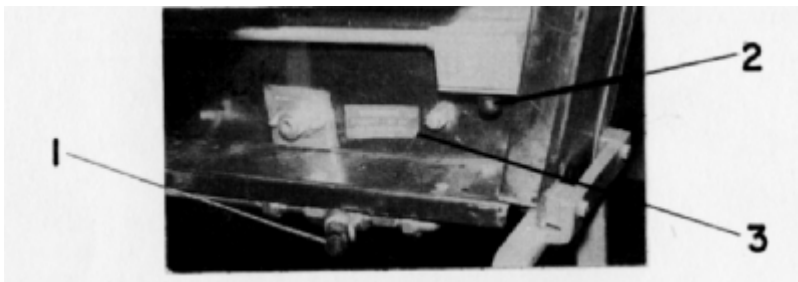

FIG. 28
NOTE:- When necessary, coupler manual alignment may be obtained by exhausting air pressure from Coupler Centering Device (3), Fig. 22-23. This is accomplished by push in handle on Manual Shutoff Valve (1) Fig. 28, to exhaust air from cylinders. After the cars are coupled, pull out handle on Manual Shutoff Valve.
At 'A' end the push button is located opposite cab side, inside of pilot at side sill level (84) Fig. 22, GE (76) Fig. 23, and at 'B' end of car the push button is located on end sheet, cab side, just above the loop step (84), Fig. 22 and (2) Fig 28, GE (46) Fig. 23.